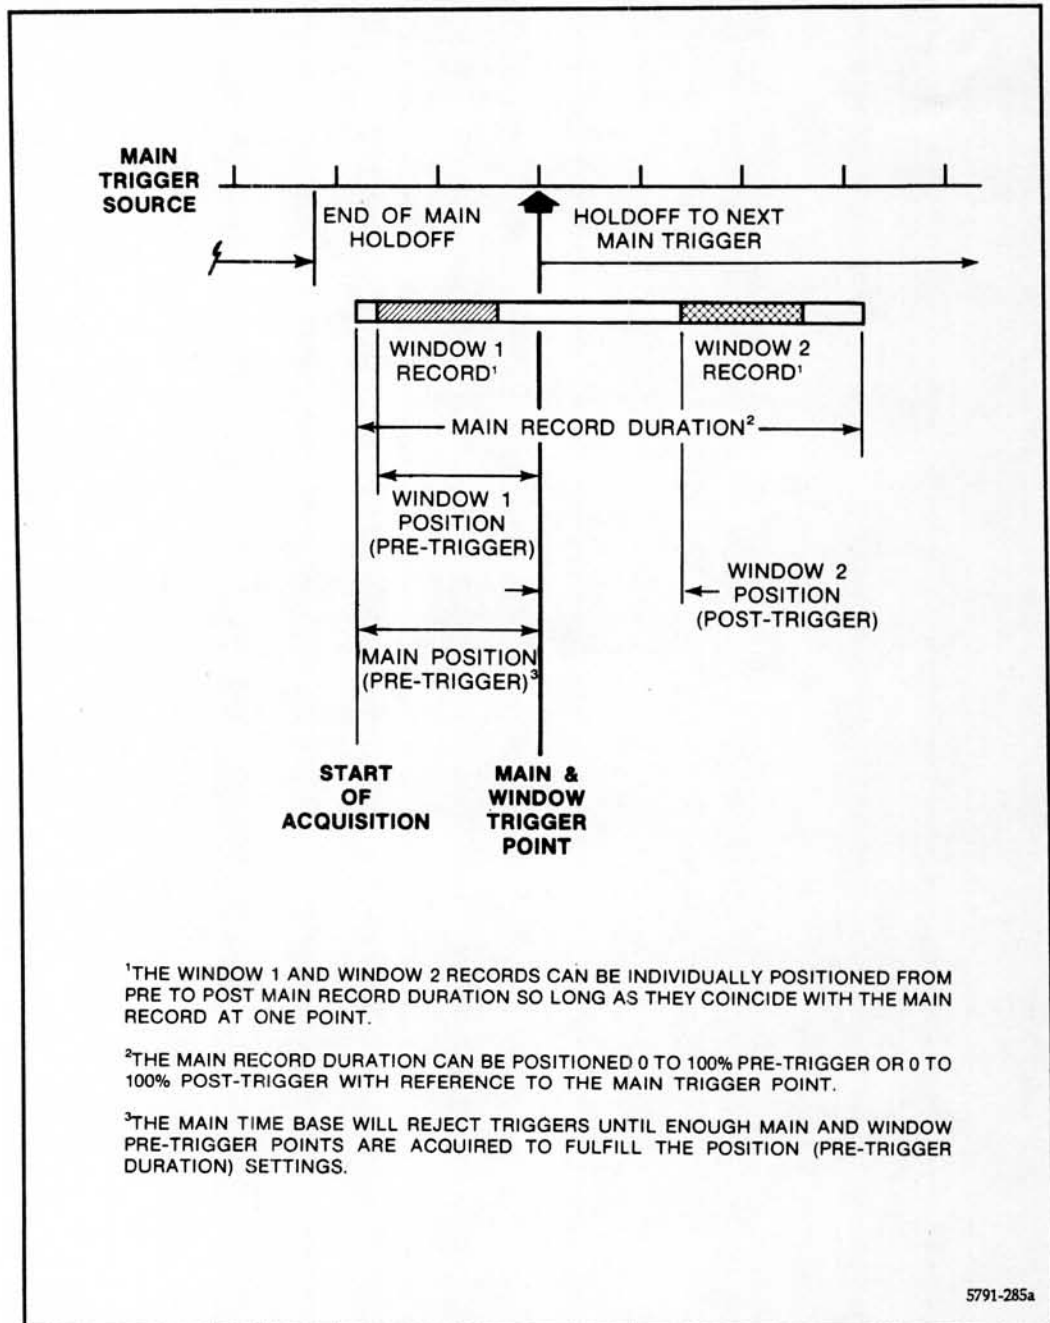

Figure 2-24. Main and Window time bases both triggered from the Main Trigger Point.
The **Window Holdoff Mode** is used in conjunction with the Window 1 and 2 labels. The **Window Holdoff Mode** determines how the windows will be triggered. The default mode is Triggered from Main which means the window time base is triggered by the Main trigger. Choosing Window holdoff by time or events sets the Window trigger to start the Window time base. Figures 2-24, 2-25, and 2-26 show the three holdoff trigger modes in relationship to Main and Window records positioning. For more information on horizontal positioning see "Horizontal Size and Position" earlier in this section of the manual.
- **No Holdoff Triggered from Main**—Window trigger time base is not held off. The Window time base uses the Main trigger signal. Window records are positioned with respect to the main trigger point. Window trigger parameters (i.e., source, level, etc.) have no effect in this mode. Figure 2-24 presents an example of this trigger holdoff mode in graphic form.